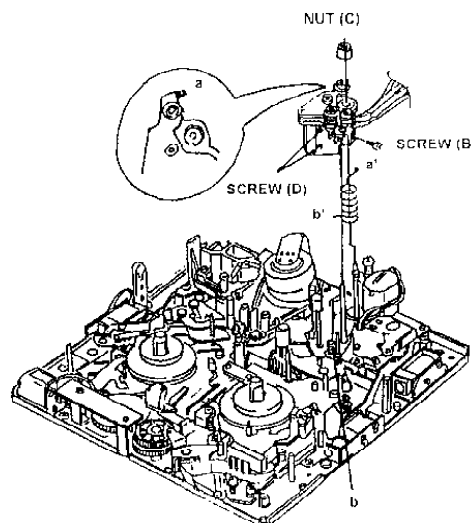

Fig. 6-2-1
3. Remove the 2 screws (A). and disconnect the 2 connectors P1 on the A/C Head I/F P.C.Board and P30 on the Mech I/F P.C.Board, and then remove the A/C Head from the A/C Head Plate.
4. Remove 2 screws (D) to remove the Shield Cover as shown in **Figure 6-2-1**.